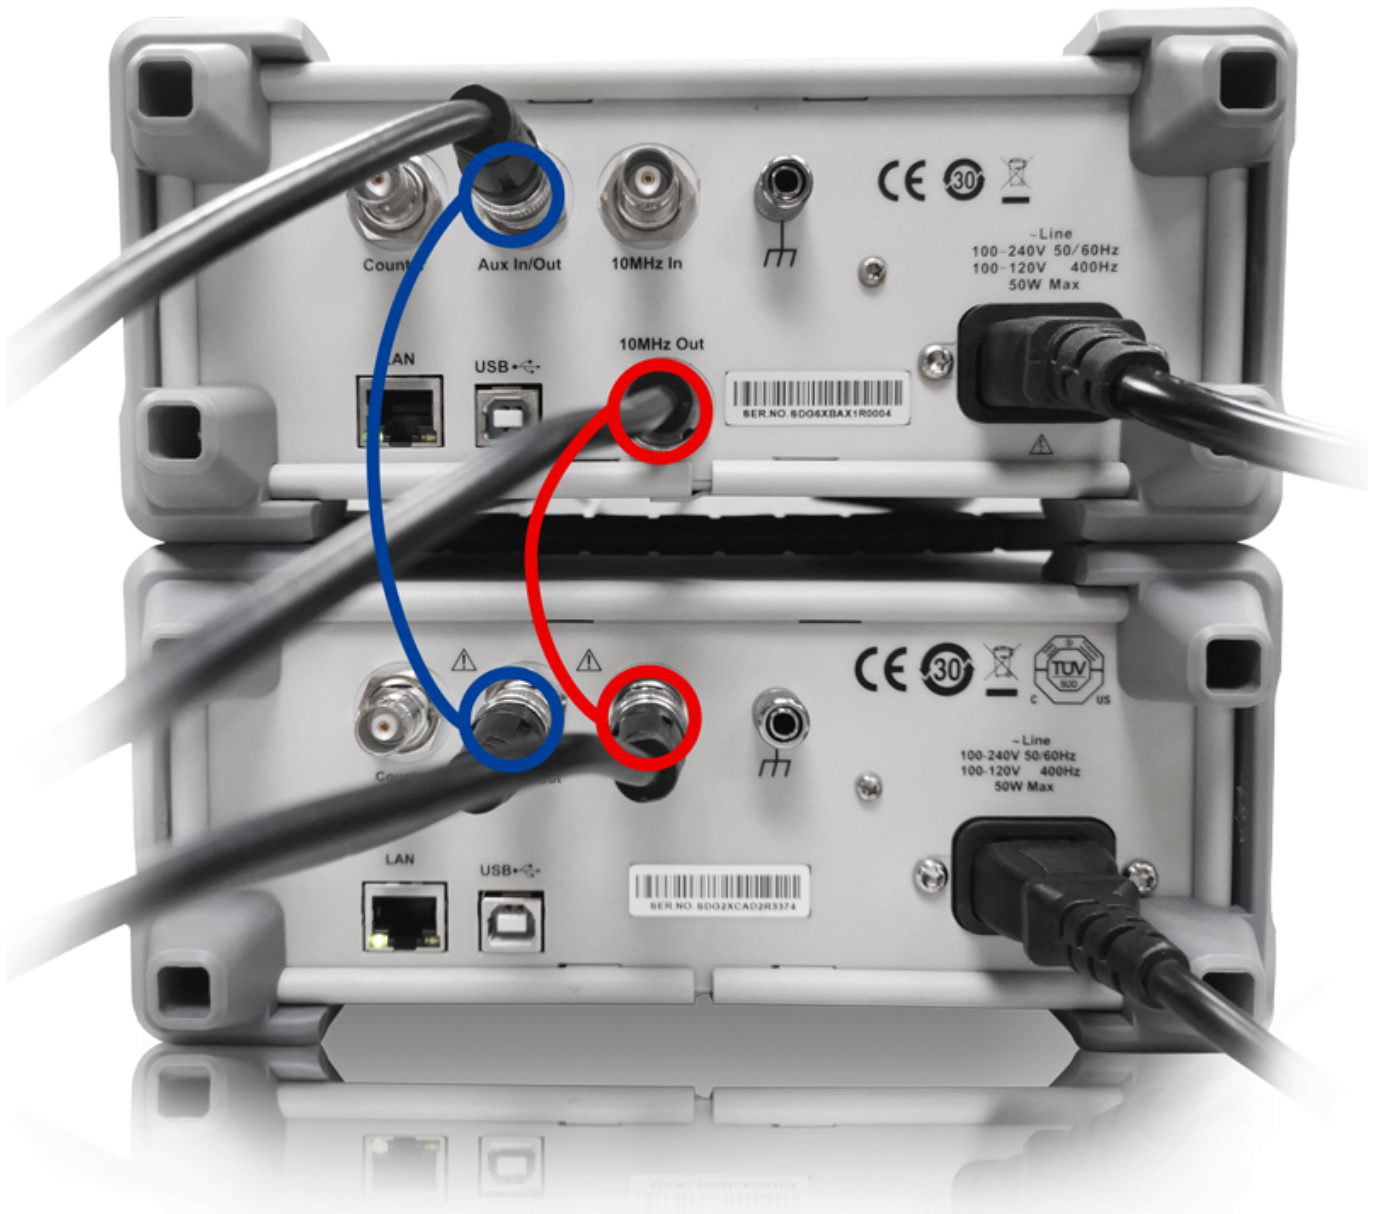

Figure 3. Connect Master 10 MHz Out to Slave 10 MHz In
2) Next connect the SDG6000X 10 MHz Out port with the SDG2000X 10 MHz In/Out port, as shown in Figure 3.